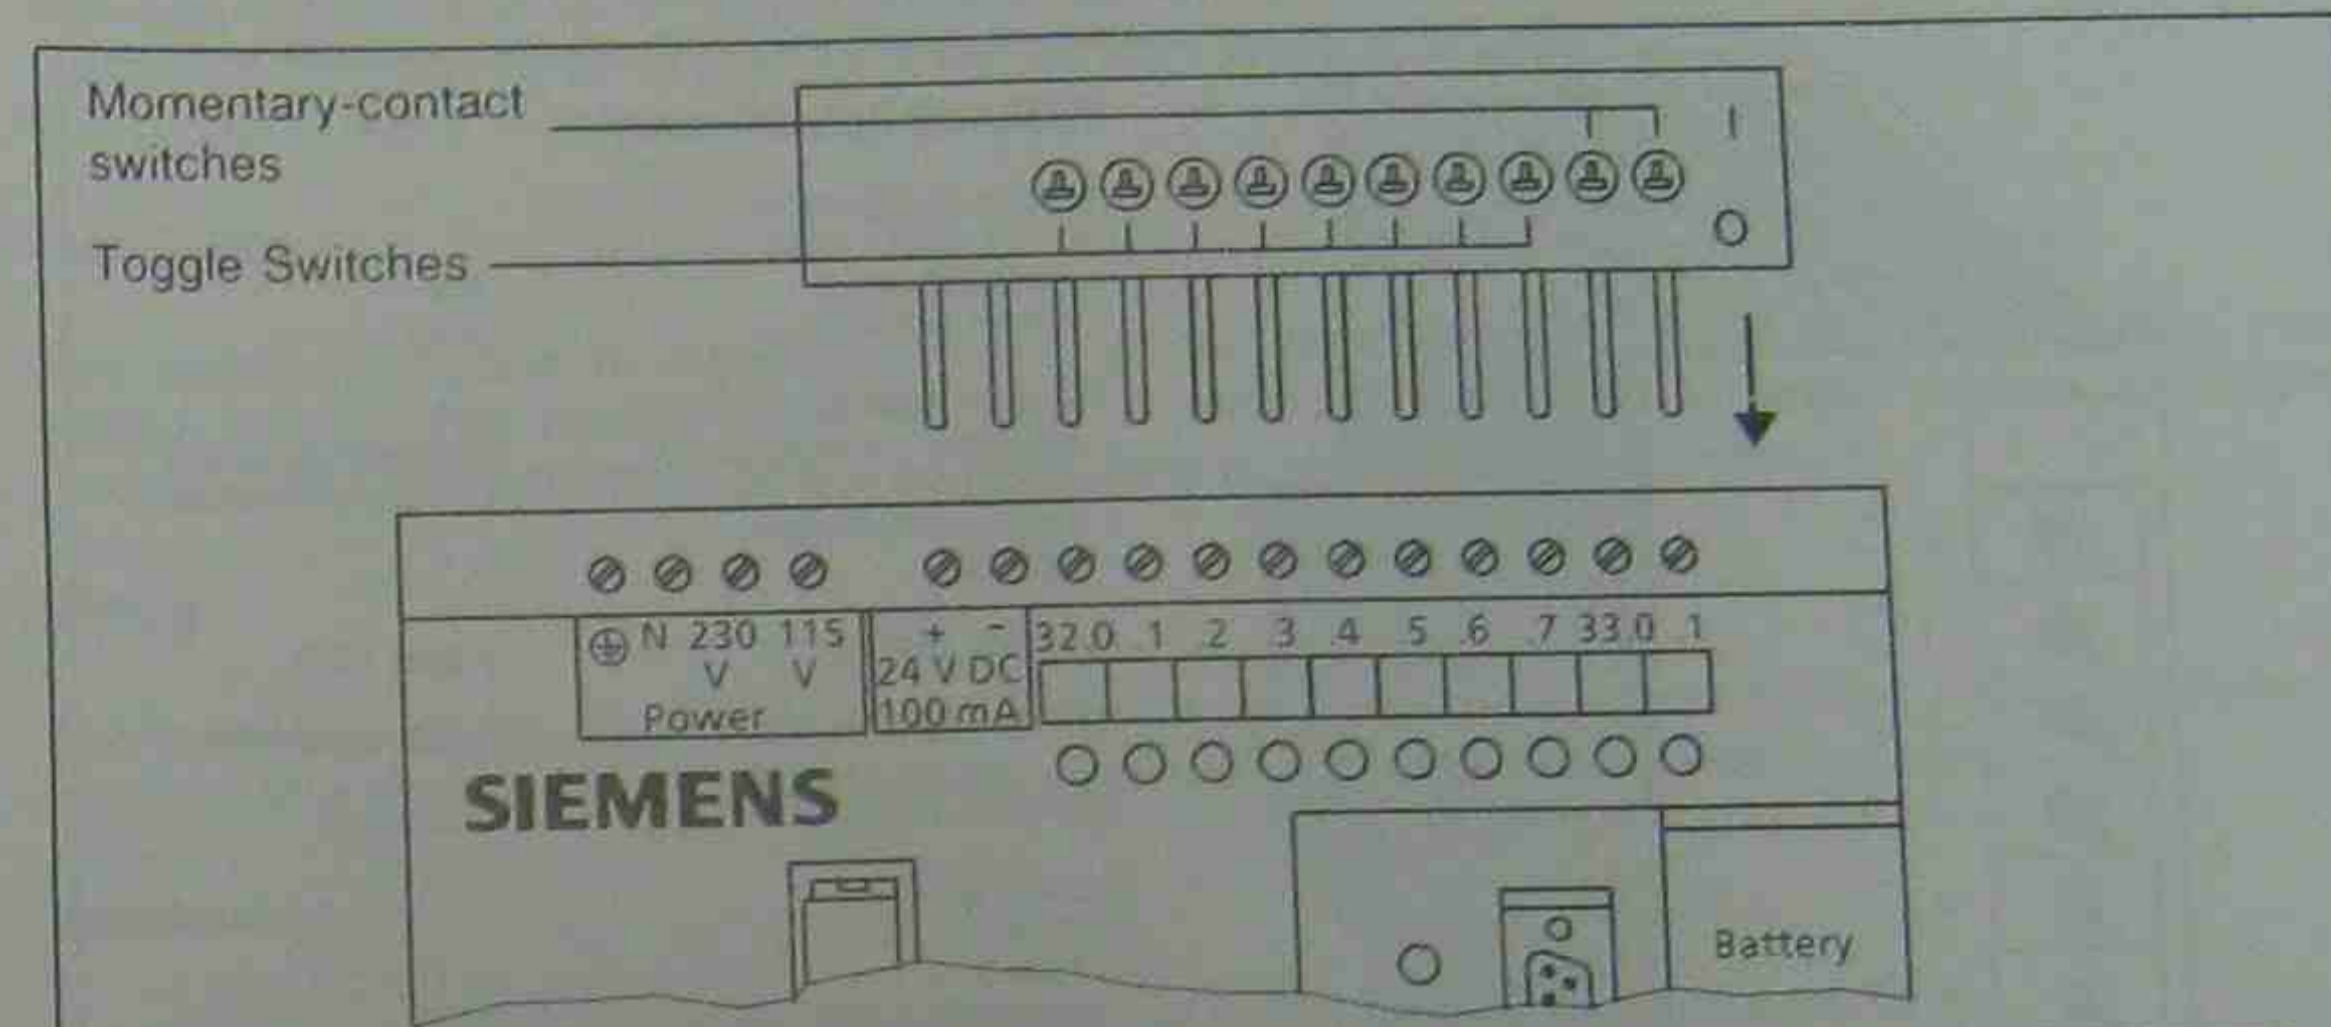

Figure 14-3. Installing and Removing a Simulator on a Programmable Controller
- ▶ Plug the simulator into the programmable controller as illustrated in Figure 14-3.